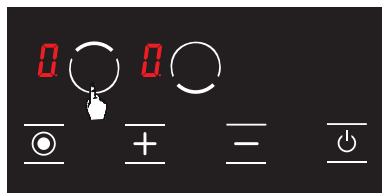

Figure 6
2. Press the relevant hob selection key. The  icon shall be displayed in the relevant hob when you touch for the first time. (See Fig. 6)